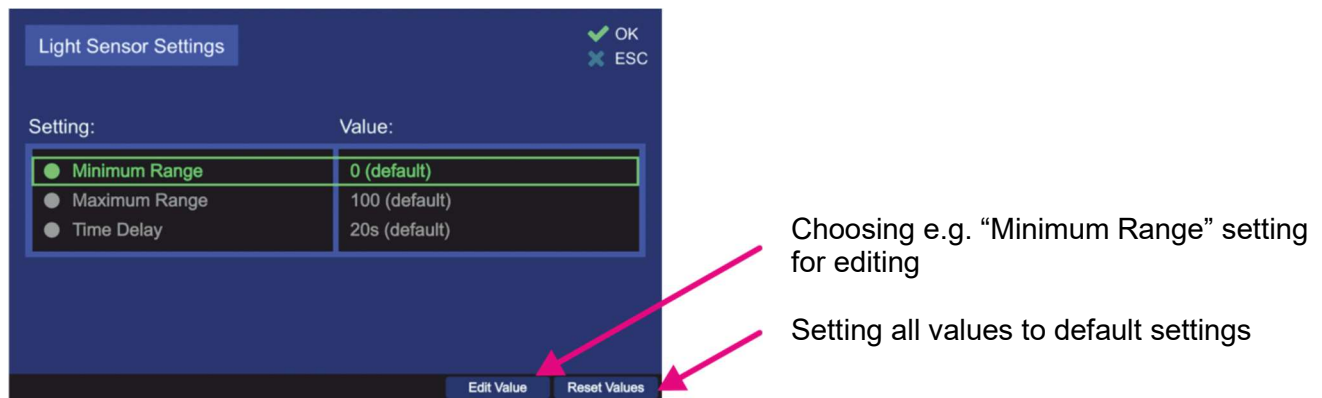

Figure 94. Light sensor settings
- Leaving the top level dialog (s. Figure 94) always press “OK” for the second time (after confirming the actual setting), otherwise, the changed settings will not be adopted.